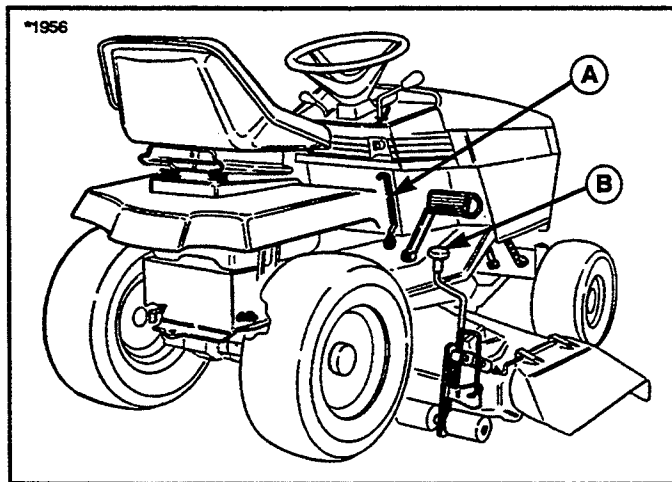

Figure 10. Mower Operation
2. Place mower in the lowest cutting position using the mower height adjuster (B, figure 10). Place the mower lift lever (A, figure 10) in the lowest position, also. Slide mower deck under right side of tractor so that mower hitch is aligned with front tractor hitch.
2. Place mower in the lowest cutting position using the mower height adjuster (B, figure 10).
3. Place the mower lift lever (A, figure 10) in the lowest position.
1. When traveling to or from the work site, raise the mower using the mower lift lever (A, figure 10). At the work site, lower mower using the lift lever.
2. Use the mower height adjuster (B, figure 10) to set the proper mowing height. See Mowing Patterns & Tips section for cutting height recommendations.
1. If you are ready to mow, lower the mower from the transport position using lever (A, figure 10) and set the mowing height using the mowing height adjuster (B, figure 10).